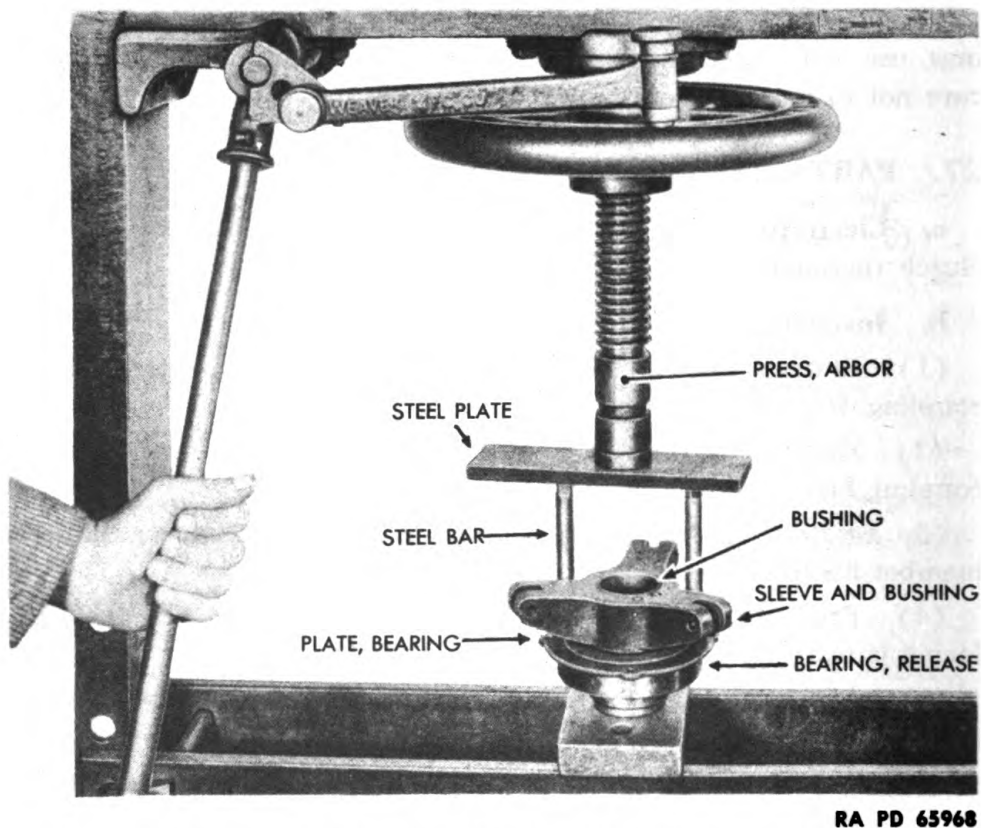

Figure 25 — Pressing Release Bearing from Sleeve and Bushing
(13) REMOVE RELEASE BEARING FROM SLEEVE AND BUSHING (fig. 25).
(14) REMOVE BUSHINGS FROM SLEEVE IF THE BUSHINGS ARE TO BE REPLACED (fig. 25).
Install release bearing plate over sleeve and bushing. Position bearing on sleeve, the reverse of figure 25. Use an arbor press to press release bearing on sleeve and bushing.